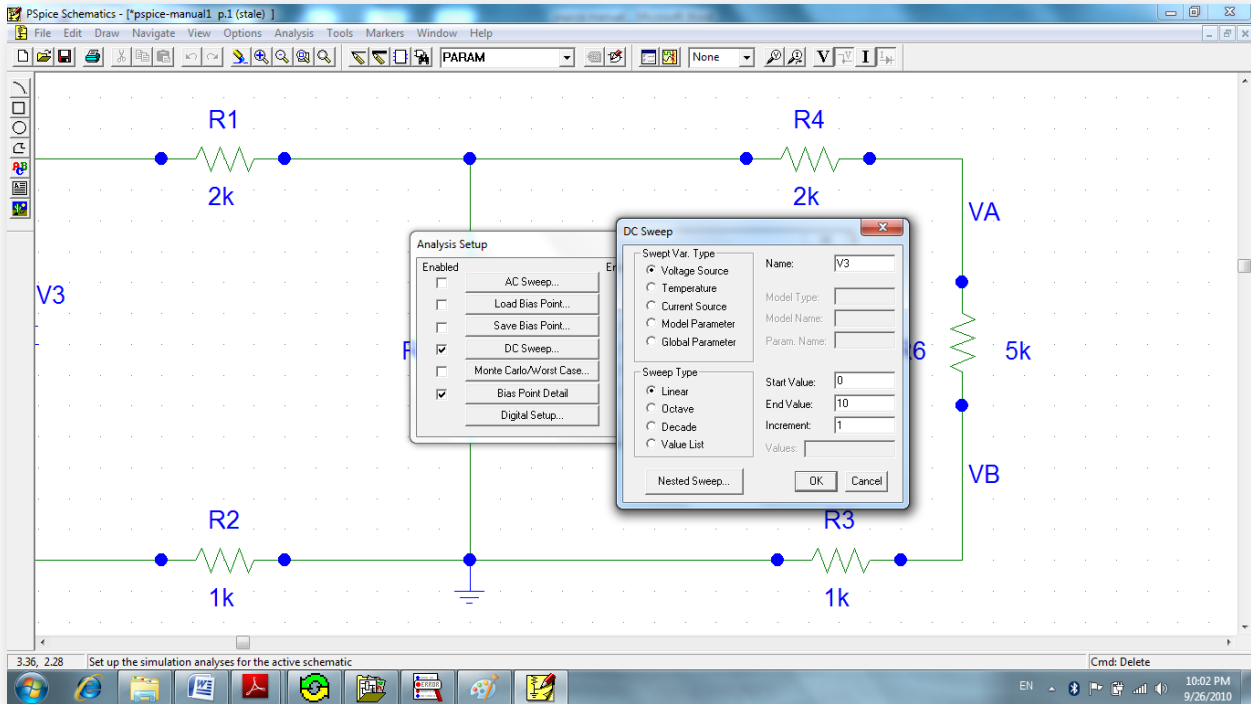

Fig.4.1.2: Set the DC Sweep Parameters.
- 3- Choose **Voltage Source Type**>> **Name:V3**>> **Linear sweep** >> **Start Value=0,End Value=10,Increment =1** then click **OK** (Show Fig.4.1.2).